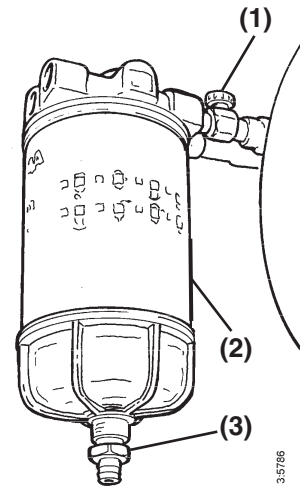

Figure 6-29
1. Close the fuel tank cock (**Figure 6-29, (1)**).
2. Loosen the drain plug (**Figure 6-29, (3)**) at the bottom of the fuel filter / water separator and drain off any water and dirt.
3. Turn the filter container (**Figure 6-29, (2)**) counterclockwise to remove.
6. Open the fuel tank cock (**Figure 6-29, (1)**).